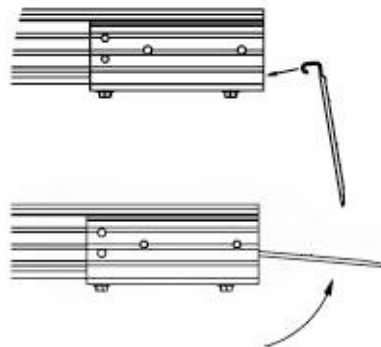

FIG. 18
- 3.2 Install a transition plate into each end of the ramp section(s) by turning the section(s) over, then inserting as shown in FIG. 18.